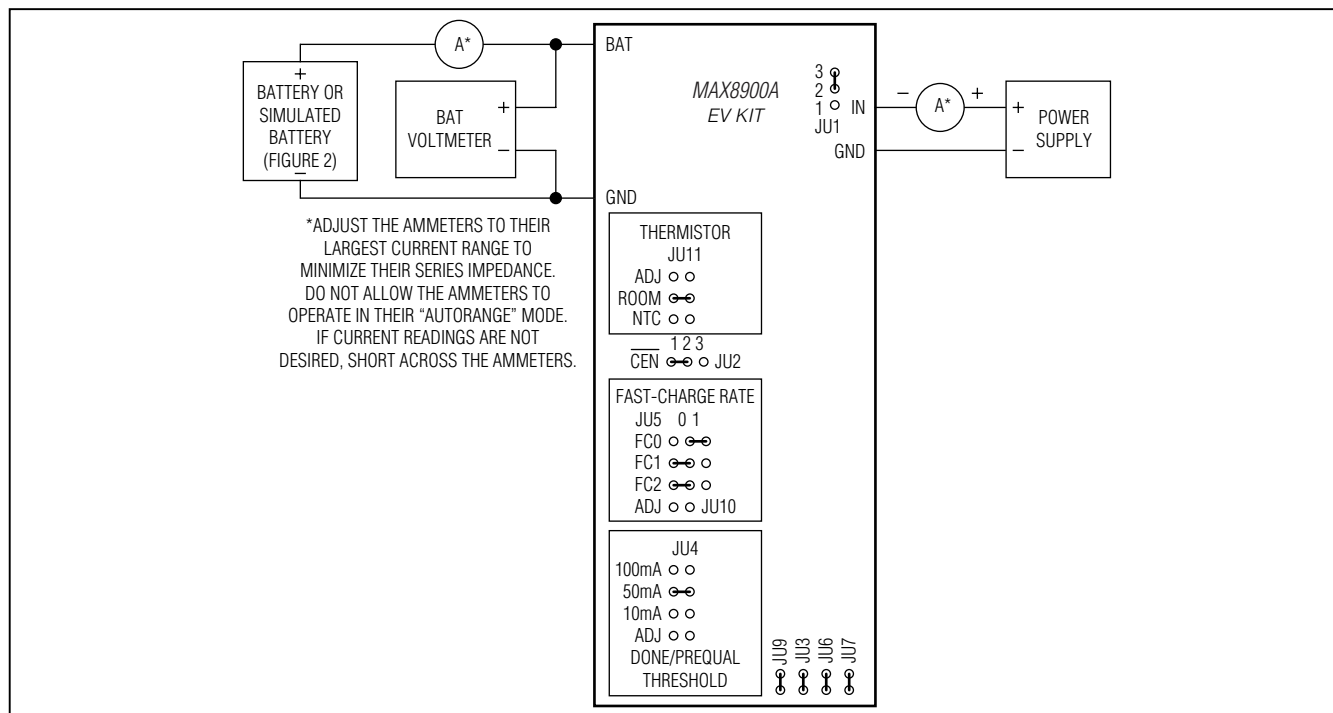

Figure 3. Connection Diagram and Default Jumper Connections
- Ensure that the EV kit has the jumper settings as shown in Figure 3 and Table 1.
- Connect the EV kit to the power supply, battery, or preloaded power supply and meters, as shown in Figure 3. Adjust the ammeters to their largest current range to minimize their series impedance. Do not allow the ammeters to operate in their “autorange” mode. If current readings are not desired, short across the ammeters.
As shown in Figure 3, MOSFET and resistor combinations adjust the total resistance from SET1 to ground. The MAX8900_ supports values of fast-charge current (I_{FC}) from 50mA to 1200mA. Table 2 shows the I_{FC} values that are easily obtainable by adjusting jumpers JU5 and JU10. The relationship between RSET1 and I_{FC} is as follows:
As shown in Figure 3, several different resistor values can be connected from DNI to ground by using jumper JU4. The resistance from DNI to ground sets the prequalification current (I_{PQ}) and done current (I_{DN}). The MAX8900A supports I_{DN} and I_{PQ} currents from 10mA to 200mA. Table 3 shows the I_{DN} and I_{PQ} values that are easily attained with the EV kit. The relationship between R_{DNI} , I_{DN} , and I_{PQ} is as follows: